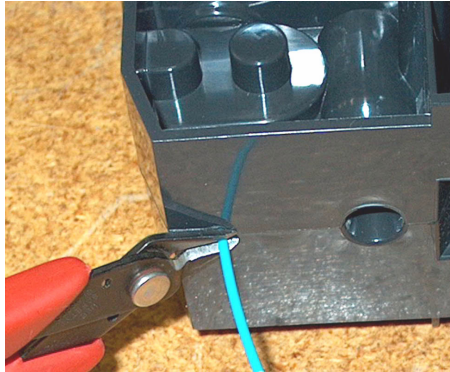

Figure 10: Snipping the material filament
5. With the cutter from your Startup Kit, snip the filament flush with the end of the cartridge (see Figure 10 on page 34).
If the display shows **Load Failed**, press **Retry**. If load fails again, remove the cartridge, snip the material (see Figure 10 on page 34), remove filament in the system, and reinsert the cartridge.